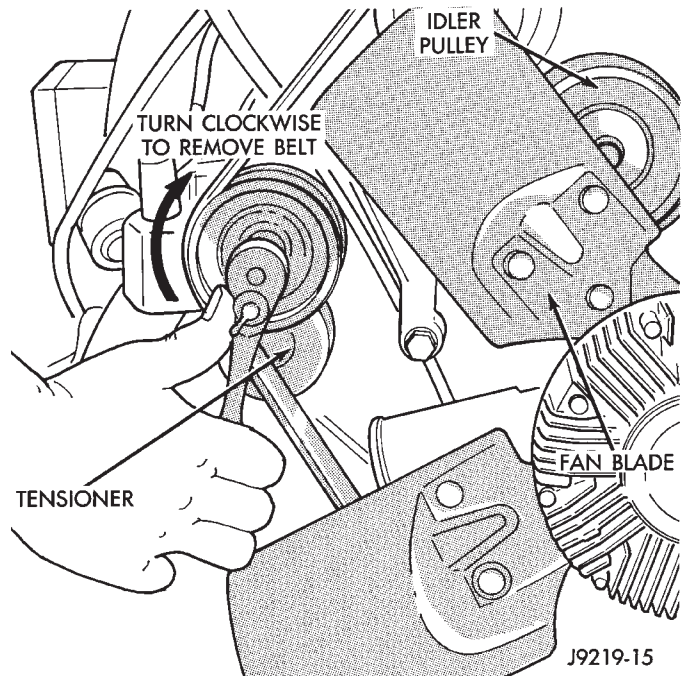

Fig. 86 Belt Tensioner—3.9L V-6 or 5.2/5.9L V-8 LDC-Gas Engines
Drive belts on these engines are equipped with a spring loaded automatic belt tensioner (Fig. 86). This belt tensioner will be used on all belt configurations, such as with or without power steering or air conditioning. For more information, refer to Automatic Belt Tensioner, proceeding in this group.
- (1) Attach a socket/wrench to pulley mounting bolt of automatic tensioner (Fig. 86).
- (2) Rotate tensioner assembly clockwise (as viewed from front) until tension has been relieved from belt.
- (3) Remove belt from idler pulley first.
- (4) Remove belt from vehicle.
(1) Position drive belt over all pulleys **except** idler pulley. This pulley is located between generator and A/C compressor.
(2) Attach a socket/wrench to pulley mounting bolt of automatic tensioner (Fig. 86).
(3) Rotate socket/wrench clockwise. Place belt over idler pulley. Let tensioner rotate back into place. Remove wrench. Be sure belt is properly seated on all pulleys.
(4) Check belt indexing marks. Refer to the preceding Automatic Belt Tensioner for more belt information.